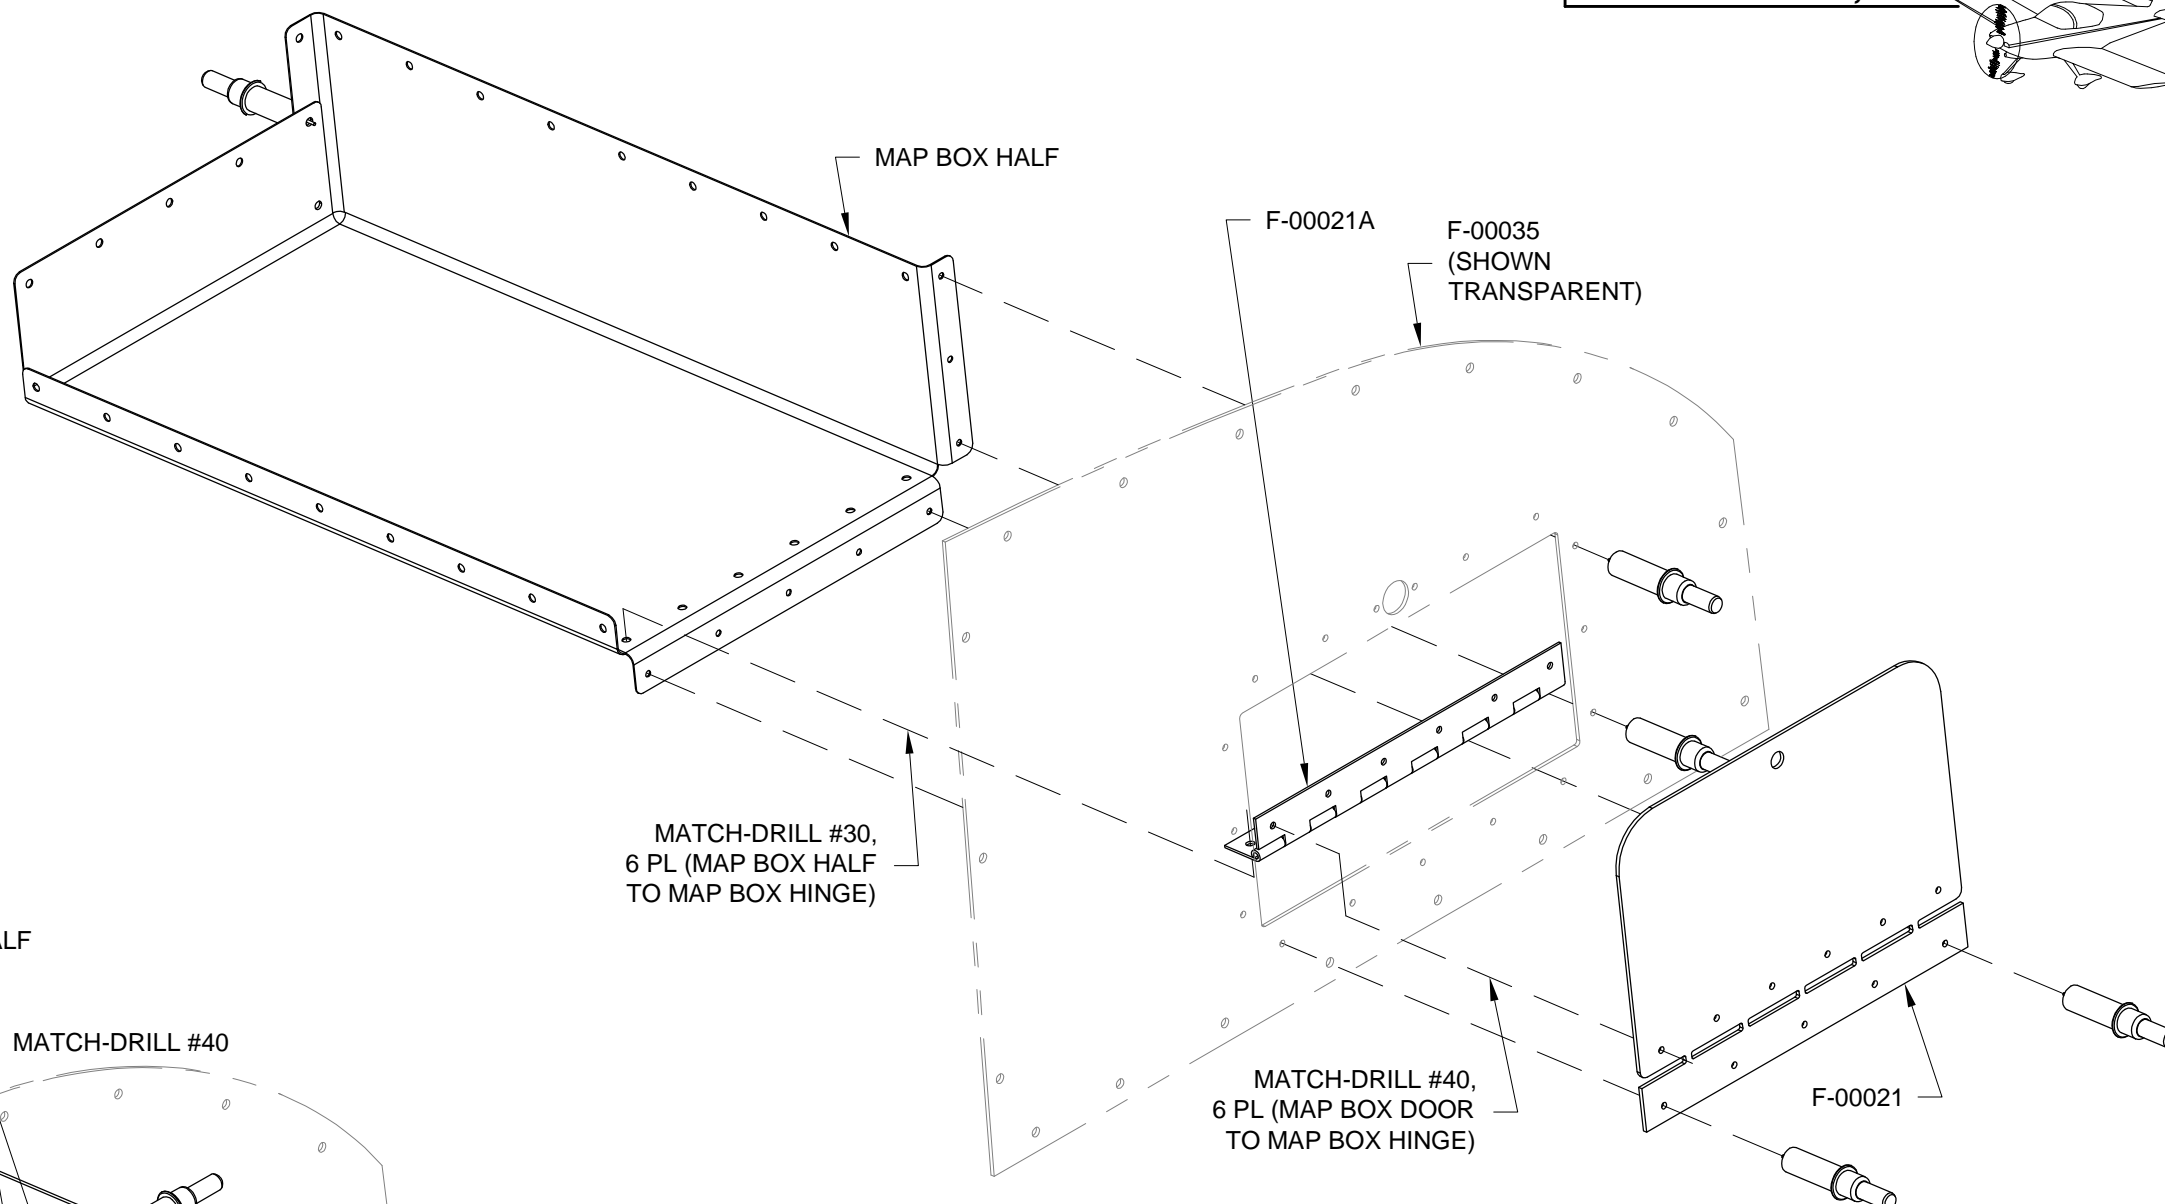

FIGURE 1: MATCH-DRILL THE MAP BOX HINGE
With the map box hinge held simultaneously against both the map box door and the map box half, match-drill #30 the map box hinge to the map box half. See the call-out "Match-Drill #30, 6 Places" call-out in Figure 1.
Step 3: With the F-00021A Map Box Hinge held against the F-00021 Map Box Door, match-drill #40 the map box hinge to the map box door. See the call-out "Match-Drill #40, 6 Places" in Figure 1.